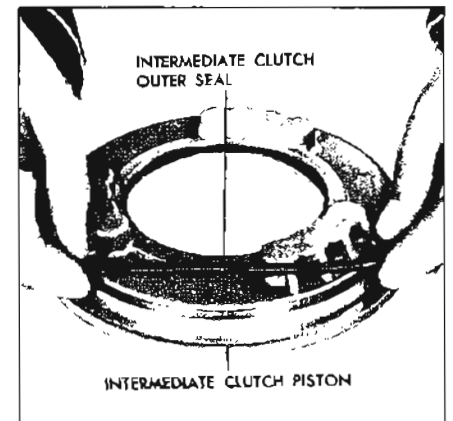

Figure 5-654A
2. Install new outer seal. See Figure 5-654A.